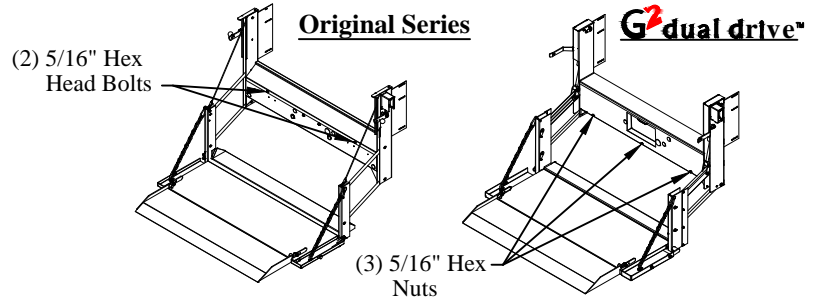

Figure 17: Box cover locations.
5. **Remove** the box cover by removing the 5/16" hex head bolts or nuts (Figure 17).